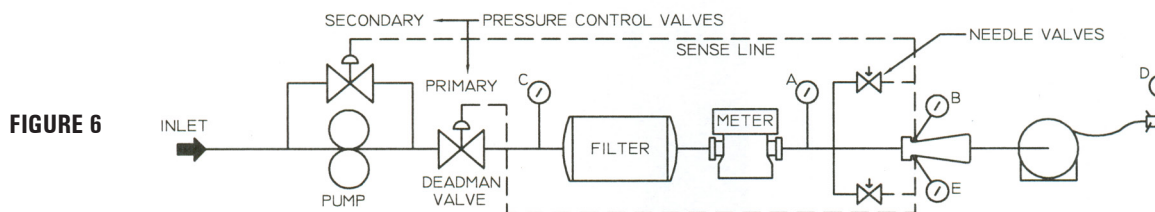

FIGURE 6
- Most specifications for fueling equipment now require dual pressure controls, one primary and one secondary or "back up". This can be achieved by various combinations of inline, bypass and hose-end controls. (We will address this subject in a future Gamgram). A common method has the deadman valve serve as a primary pressure controller with the bypass valve as a secondary controller. Figure 6 shows how this is done. Both valves must not be adjusted to control the same pressure because they will "fight" one another with resulting instability. In any system, the primary regulator controls pressure 5 to 15 psi lower than the secondary. This may be done either by setting the regulators at different pressures, or by sending the regulators differently tuned venturi signals. In this example, the in-line (primary) controller is set at 45 psi, (pressure E). The bypass (secondary) controller is set at 50 psi (pressure B). With this arrangement, if the aircraft valve closes suddenly, the secondary valve backs up the primary valve by opening quickly to relieve pressure on the primary. (Primary pressure may be set as high as 55 psi).